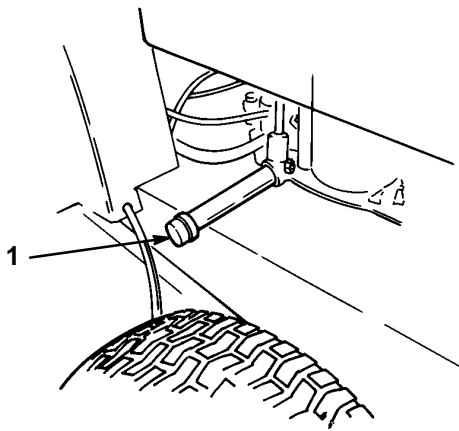

Figure 17
3. Place drain pan below drain plug (Fig. 17). Remove drain cap. Allow all oil to flow into drain pan. Reinstall drain cap after oil stops flowing.